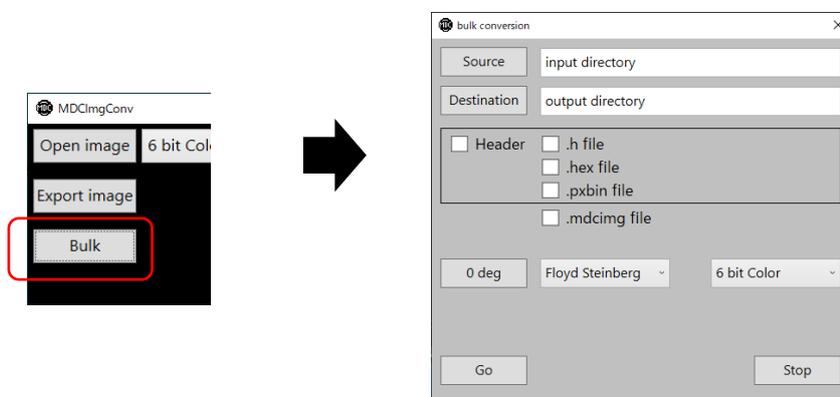

Figure 5.3 How to store files with MDCImgConv.exe-2
- (4) Click the Bulk button to generate output files (.h, .hex, .mdcimg) in bulk. (See Figure 5.3)